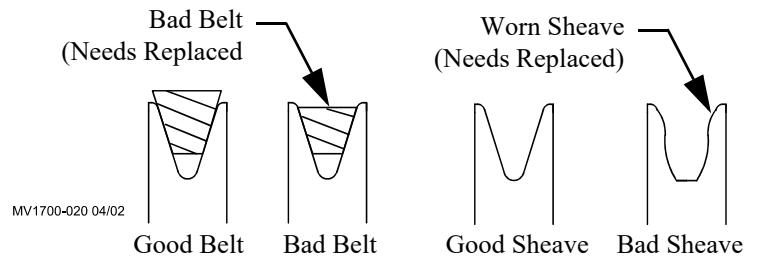

Figure 14. Belt/Sheave Wear
- Periodically check the V-Belt and replace if necessary. A bad Belt will cause a substantial drop in Fan performance or can break and cause Fan failure. If a Belt rides below the Sheave edge, replace the Belt. (See Figure 14)
• Check Sheaves for wear. Replace if Sheave groove is worn. (See Figure 14 to the Right).